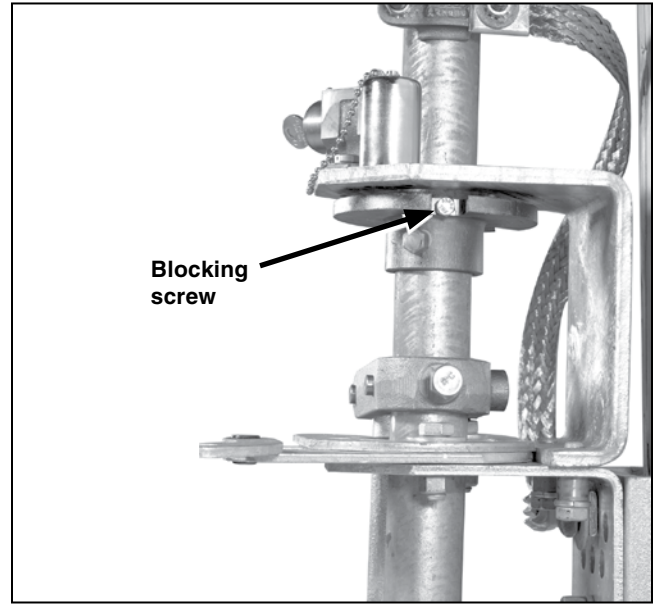

Figure 37. Blocking screw installed in the locking disc.
STEP 35. Block one of the two slots in the locking disc with the blocking screw provided. (The slot to be blocked depends on whether a locked-open or locked-closed arrangement is required.) See Figure 37.